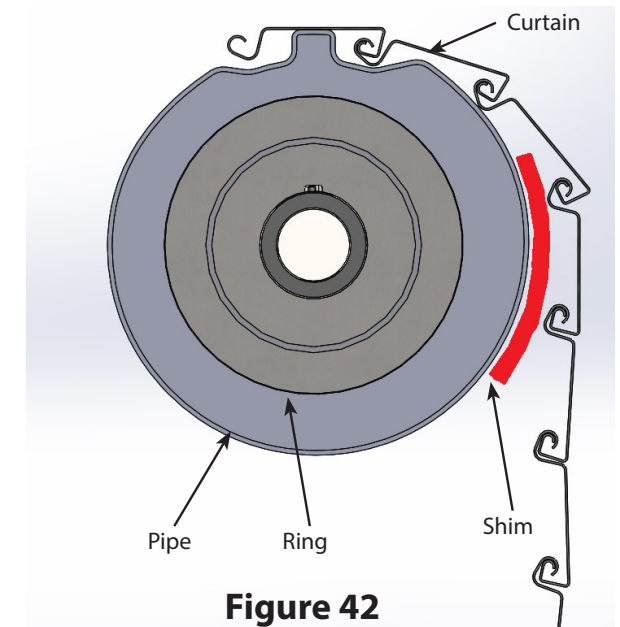

Figure 42
- Use a 1/8" x 6" x 6" thick piece of material and increase thickness or pieces depending on the result acquired, as shown in Figure 42.